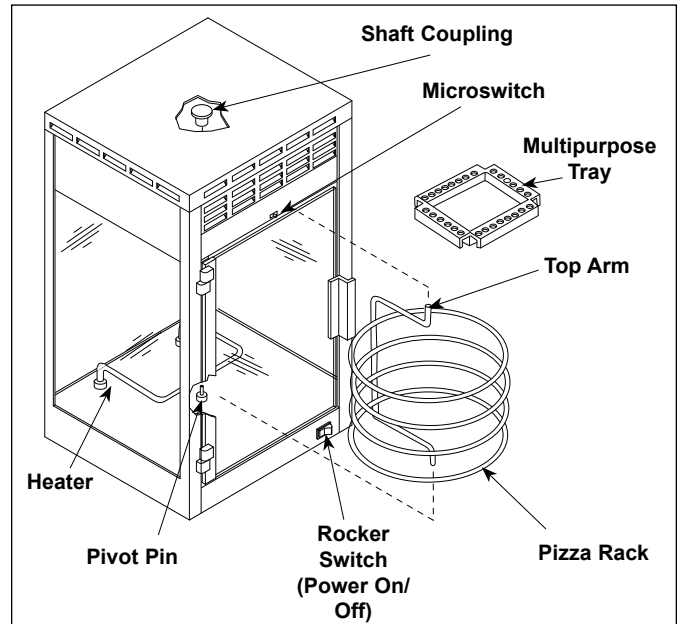

Figure 1. Display Components
3. Remove the Pizza Rack by pushing down on the Top Arm and sliding it out of the Shaft Coupling (Figure 1). Remove the Multipurpose Tray. Wash all components in soap and water and allow to air dry. Wipe all surfaces of the unit with a hot, damp cloth.
4. Reinstall the Multipurpose Tray over the Heater (Figure 1). Install the Pizza Rack by placing the bottom end onto the Pivot Pin on the display area floor and push down on the Top Arm while positioning it into the Shaft Coupling. Slowly turn the Pizza Rack until it snaps into place (Figure 1).
2. Turn the Rocker Switch (power On/Off) to ON (Figure 1) and close the door. The display lights will turn on and the Pizza Rack will begin to rotate.
6. Reinstall the Multipurpose Tray over the Heater (Figure 1). Install the Pizza Rack by placing the bottom end onto the Pivot Pin on the display area floor and push down on the Top Arm while positioning it into the Shaft Coupling. Slowly turn the Pizza Rack until it snaps into place.